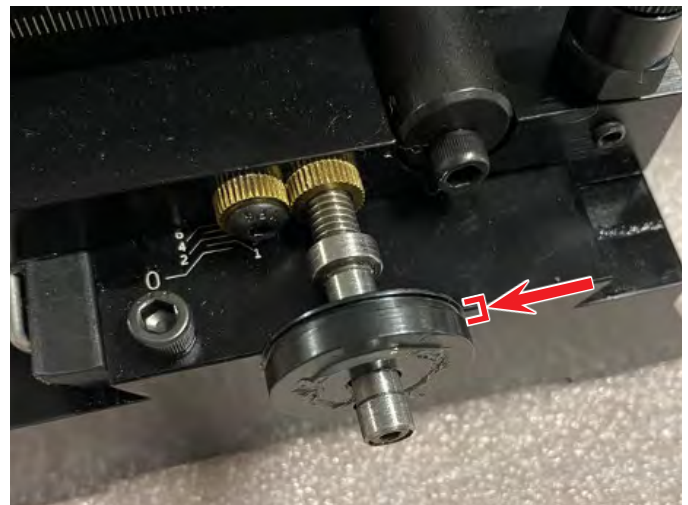

FIGURE 16—The small bracket shows the groove on the thrust collar installed nearest the base.
Q. Locate the thrust washer on the slide screw adapter with the groove toward the base (see Figure 16).